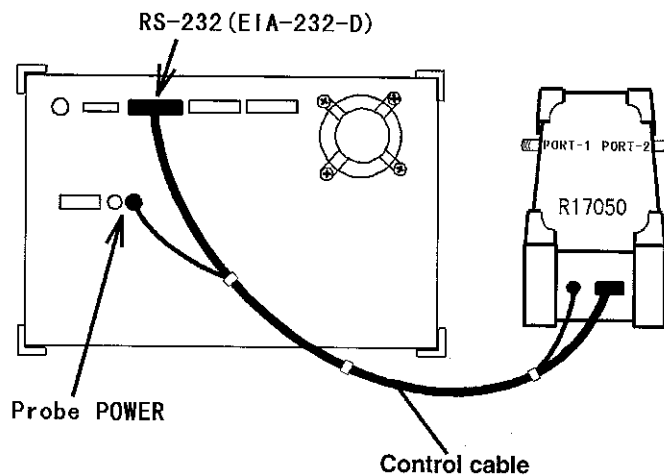

Figure 6-1 Connecting the Control Cable
1. Connect the control cable between the instrument and network analyzer.(see Figure 6-1).